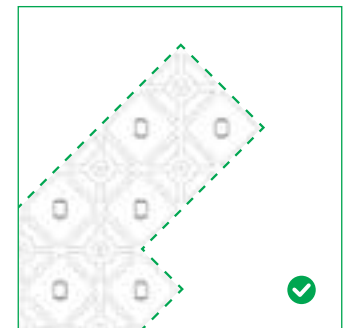

Figure 4
- Include at least two contiguous diagonal rows of LEDs when cutting the sheet diagonally (figure 4).